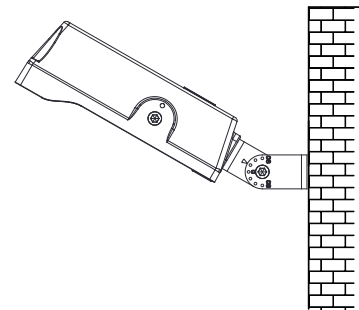

Fig 6.6
Step 3: Loosen screws, Adjust fixture angles as per actual demands and tighten screws later Figure 6.6